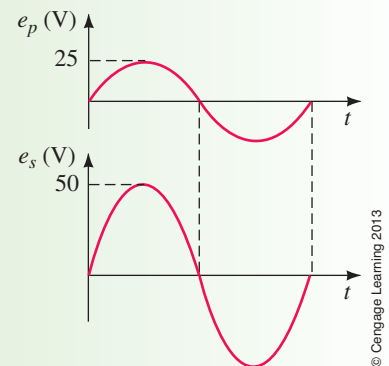

FIGURE 23–9
- Primary and secondary voltages are in phase as noted earlier. Figure 23–9 shows the waveforms.
If the transformers of Figure 23–7 have 600 turns on their primaries and 120 turns on their secondaries, and $\mathbf{E}_p = 120 \text{ V} \angle 0^\circ$, what is $\mathbf{E}_s$ for each case?